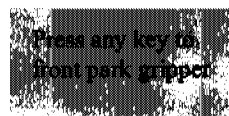

Figure 4.17. Front Park message
1. Select **Front Park** using [2 ▼] or [8 ▲]. Press [Enter]. The Front Park message displays (Figure 4.17):